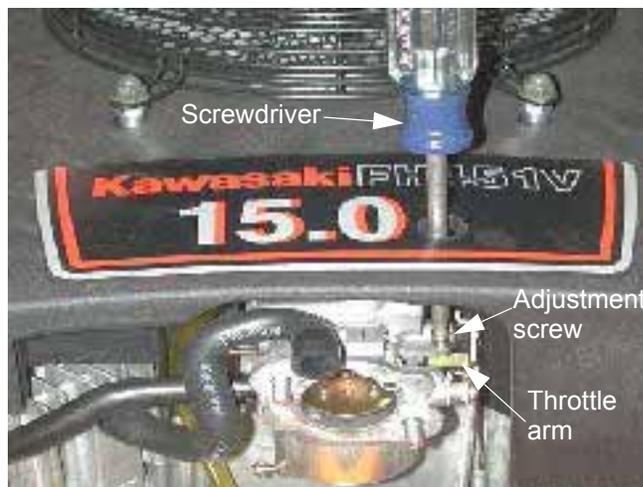

Figure 14.5
14.5. Set the idle throttle stop screw so that the engine turns 1,000 to 1,100 R.P.M. when the throttle arm on the carburetor is held against the end of the screw with light finger pressure. See Figure 14.5.